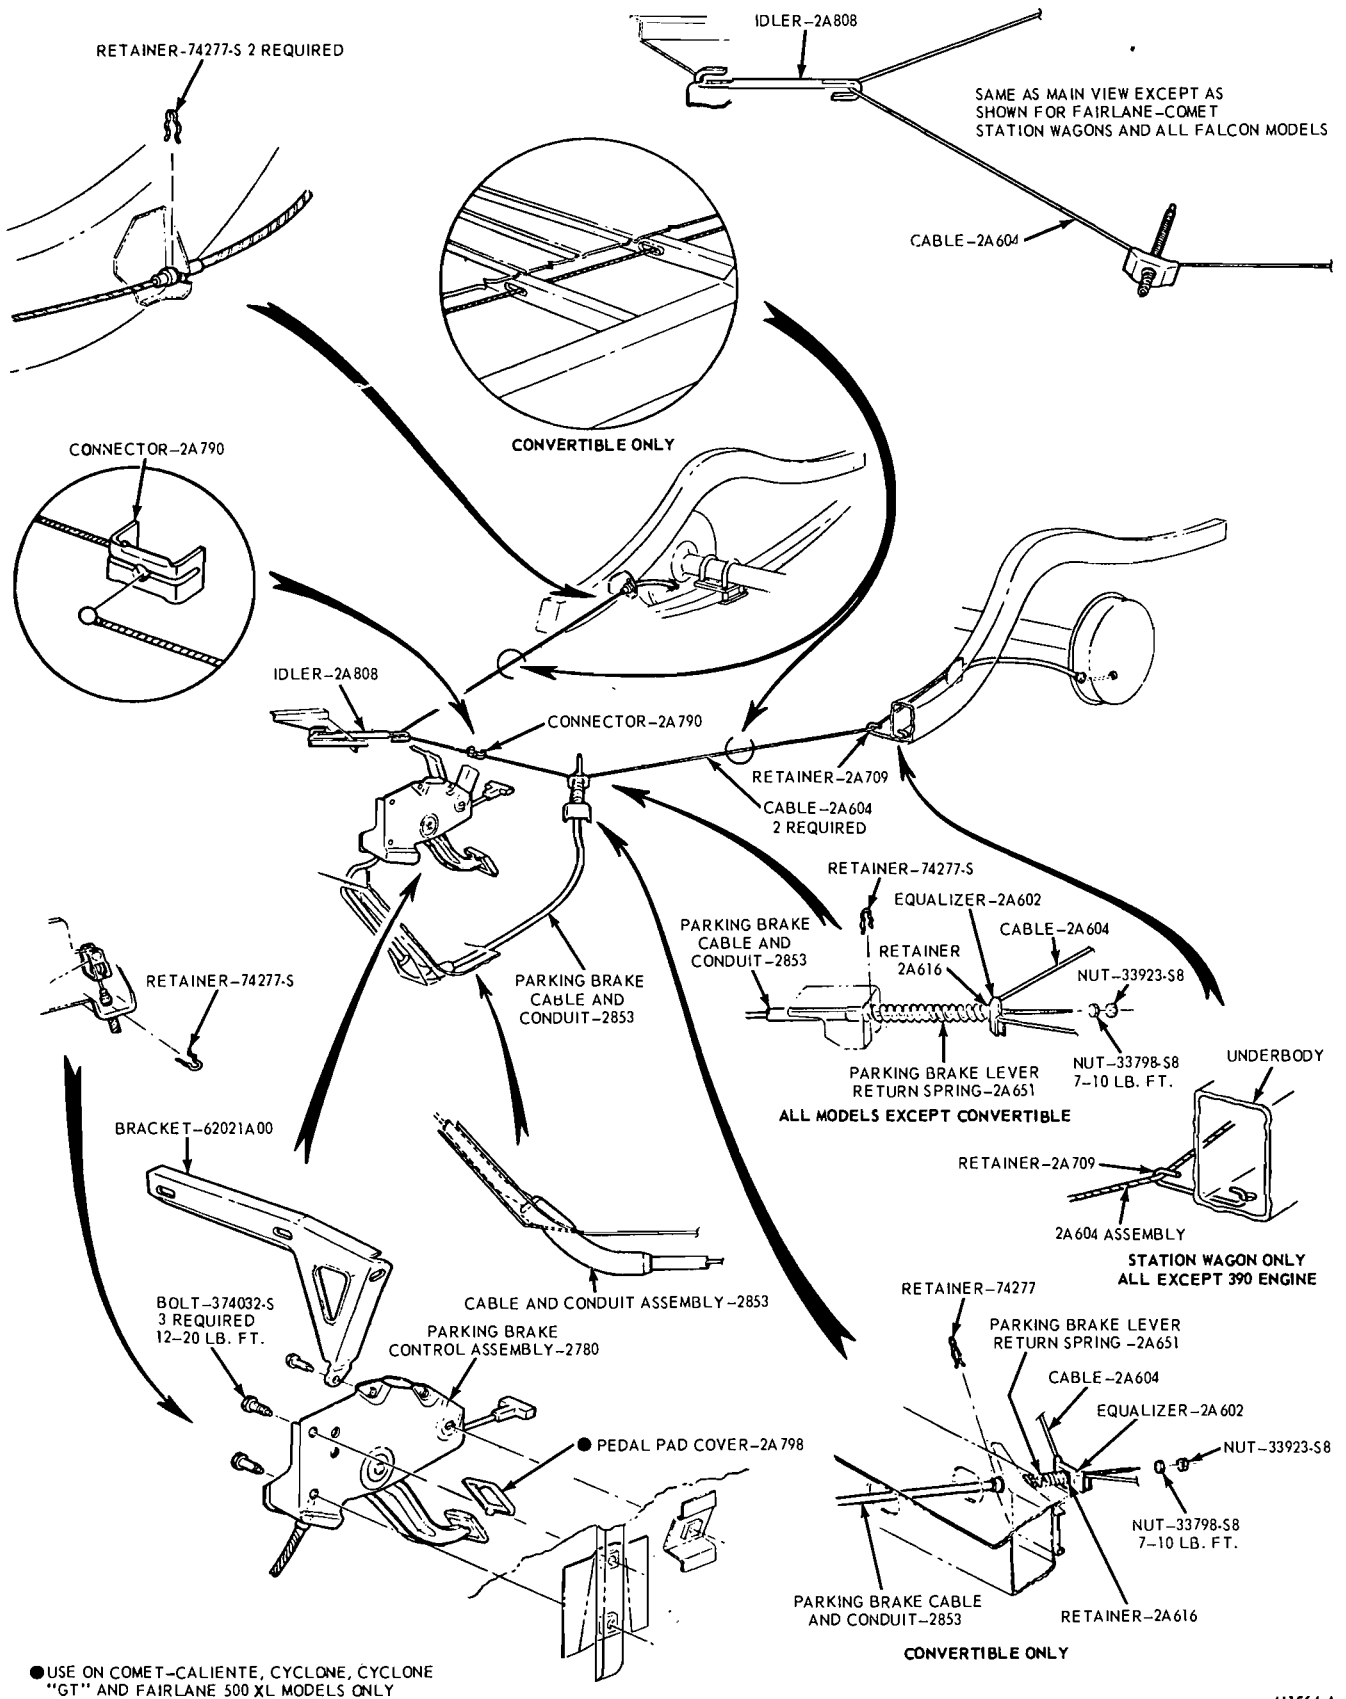

FIG. 32—Parking Brake Linkage—Fairlane, Falcon and Comet
6. Clamp the caliper in a vise and secure it by the mounting flanges on the inboard housing (Fig. 32).
7. Remove the four pistons from the cylinder bores with the special tool shown in Fig. 32. The caliper pistons must be removed prior to removal of the dust boot. As the piston is withdrawn from the caliper, spread the dust boot back over the piston. To prevent cocking with consequent damage to the piston or bore, rotate the piston with the tool while pulling it outward at the same time. **Be careful to avoid scratching or damaging the outside diameter surface or dust boot. Such damage causes poor sealing.**
If a piston is so completely seized in the cylinder bore that it can not be removed with the special tool, force the cylinder out of the bore by positioning two screwdrivers in the piston dust boot retaining groove and prying outward. To prevent cocking, tap the end of the piston lightly around the circumference with a hammer, while the prying force is being applied. Be careful to avoid damaging the dust boot retainer in the caliper housing (Fig. 32). If this method of removal is used, the pistons must be replaced.
Clean all metal parts with brake fluid or a suitable solvent (Fig. 32). Use clean, dry, compressed air to clean out and dry the grooves and passageways. Be sure that the caliper bore and component parts are completely free of any foreign material.
5. Coat the outside diameter of the pistons with brake fluid and install them in the cylinder bores so that the open end of the piston and the boot retaining groove face out of the bore. Spread the dust boot over the piston as the piston is being installed. To avoid cocking, locate the piston squarely in the bore and apply a slow steady pressure. If a piston will not easily go all the way into the bore, remove it and thoroughly inspect the cylinder bore, the piston seal and the installation of the seal. If the piston still will not go in with the bore in good condition and the piston seal properly installed, use the tool shown in Fig. 32. Rotate the piston with the tool while pushing it inward at the same time. Seat the